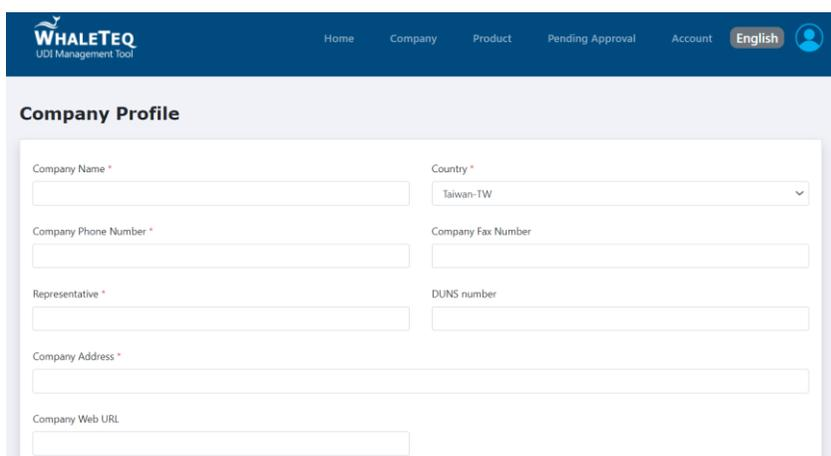
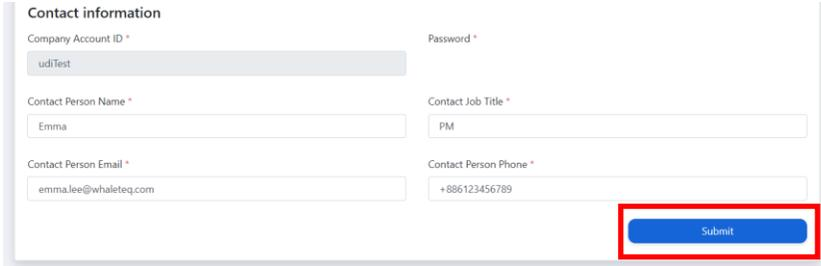

Figure 39 : Enter company information
Figure 40 : Enter contact information
(3) Enter company information in the upper part (Figure 39), and enter contact information of the administrator account in the lower part (Figure 40). Please note that company profile is created based on the company application form. After the information is revised, click [Submit] to update the company profile immediately.